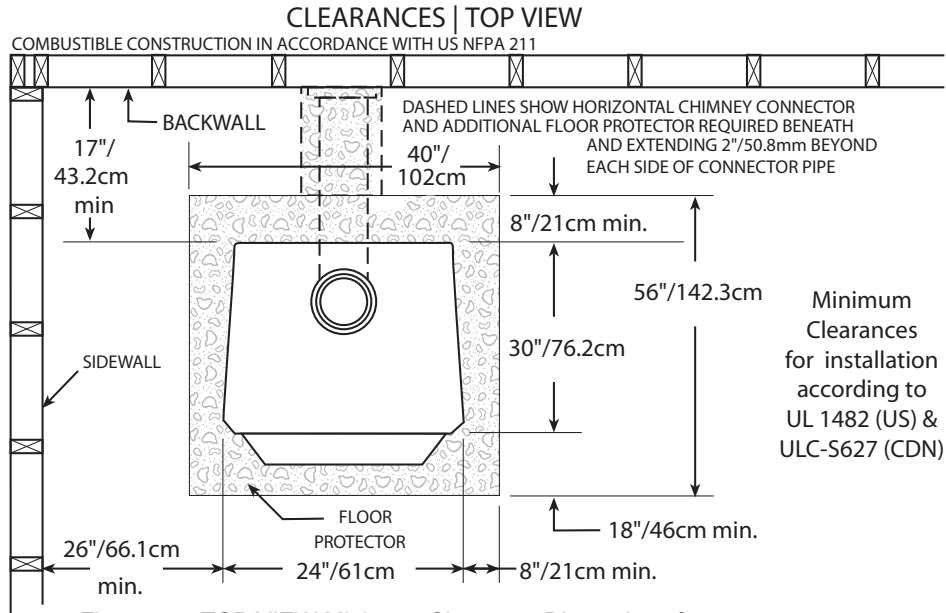

Figure 4 – TOP VIEW Minimum Clearance Dimensions from Combustible Surfaces
1. The stove must be placed on solid concrete, solid masonry, or when installed on a combustible floor, on an Underwriters Laboratories Listed Type 2 floor protector listed to UL standard UL 1618, such as Hy-C or Imperial Model UL4056BK. Floor protector must be 1/2"/13mm minimum thickness (R value = 1.19, K value = 0.84 see page 23 for calculation formulas) non-combustible material or equivalent. The floor protector must extend at least 18"/46cm beyond the front of the access door, 8"/21cm to the sides, 8"/21cm beyond the rear and must extend under and 2"/50mm beyond either side of the stove pipe if it is elbowed towards a wall. (See figures 4 – 6 and consult local building codes and fire protection ordinances.)
4. After observing the clearances to combustible materials (figures 4 – 6), locate your floor protector accordingly (figure 4) and carefully place the stove in your selected location. Install connector pipe, elbows, and thimble as required, utilizing either a recently cleaned and inspected 6"/152mm lined masonry chimney or a 6"/152mm i.d. manufactured chimney system listed to UL 103 HT (US)/ULC-S629 (CDN).
5. Use round 6"/152mm dia., minimum 24 MSG black or 26 MSG blue steel stove pipe to connect the stove to the chimney. Do not use galvanized stove pipe. NOTE: Mobile home installations require double-wall UL 103 HT high-temp connector pipe. Secure connector pipe to the flue collar with three (3) equally spaced sheet metal screws to firmly hold the pipe sections together. DO NOT CONNECT THIS STOVE TO ANY AIR DISTRIBUTION OR DUCT SYSTEM.
6. Recheck clearances from the stove, connector stove pipe, and corner clearances using the illustrations in figures 4 – 6 and your local building codes or fire protection ordinances.